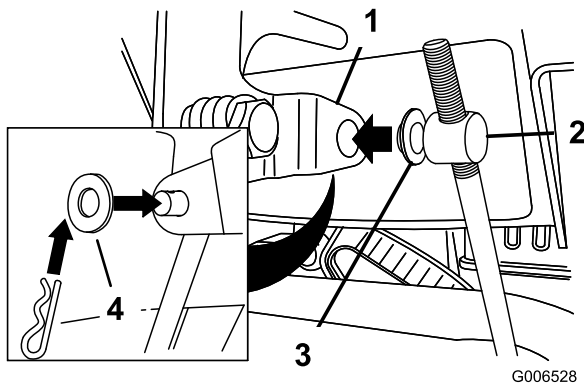

Figure 12
3. Remove the hairpin cotter and the outer washer from the trunnion on the upper end of the speed control rod (Figure 12).
Note: To make installation easier, leave the flat washer on the trunnion (Figure 12).
6. Lift up on the speed control rod and insert the trunnion into the hole in the speed selector lever (Figure 12).